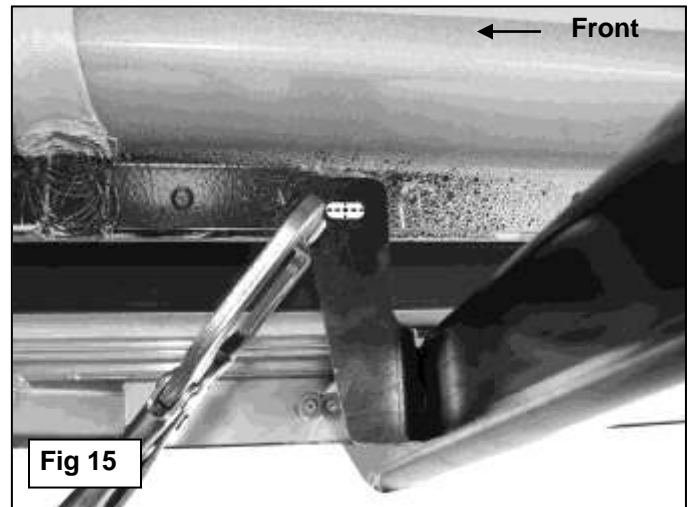

Fig 15
11. Level and adjust the Running Board properly and tighten all Bracket to vehicle hardware. Make sure that the Running Board is level and that the mounting holes in the Brackets are not too close to the bottom edge of the pinch weld before marking any of the holes for the Brackets, **(Figure 15)**.